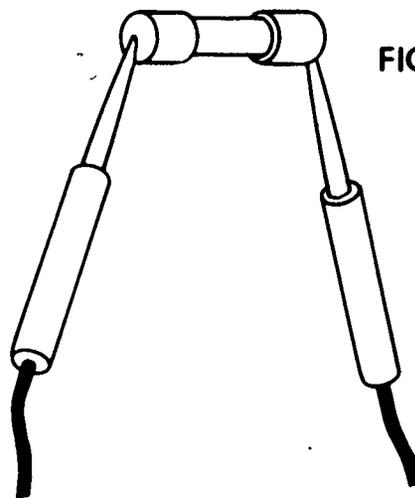

FIGURE 5
- K. Measure across fuse contacts for continuity (Figure 5)